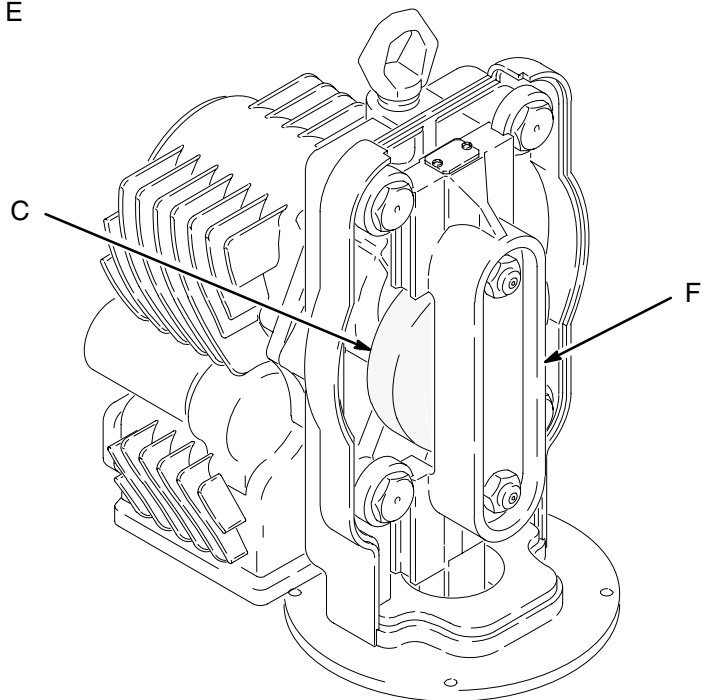

Fig. 3
The electric motor (A) drives a shaft and cam (C), which converts rotary motion to vertical linear force by engaging the carriage follower (F) in the drive section (B). The vertical motion of the carriage follower drives a rod (E) and piston up and down. See Fig. 3. Fluid enters the pump through the fluid intake (G), is pressurized inside the displacement pump (D), and exits through the pump outlet (H). See Fig. 1.
The reciprocator is shown in Fig. 3 with the drive section shield removed, for clarity. ***Never operate the reciprocator with the drive section shield removed.*** The cam and carriage follower move when power is supplied to the reciprocator, and can severely injure or amputate a hand or finger.